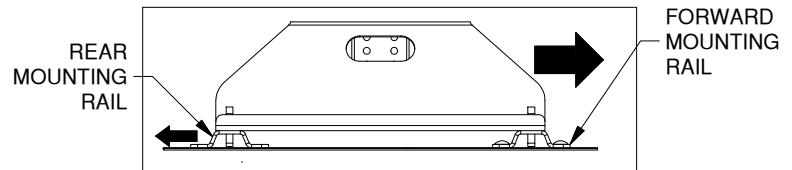

Figure D2: Side view of RV base and mounting rails.
**IMPORTANT:** Before drilling rear mounting holes pull the RV base towards the cab of the truck and push the rear rail towards the rear of the truck to correctly space the mounting rails, see Figure D2.